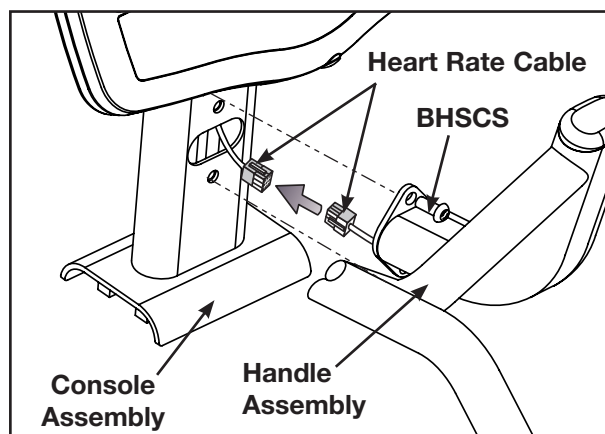

Figure 16
- A. Plug the heart rate cable connector from the console assembly to the heart rate connector from the handle assembly. See Figure 16.
- B. Using a 7/32" Allen wrench, attach the two BHSCS securing the handle assembly to the console assembly. See Figure 16.